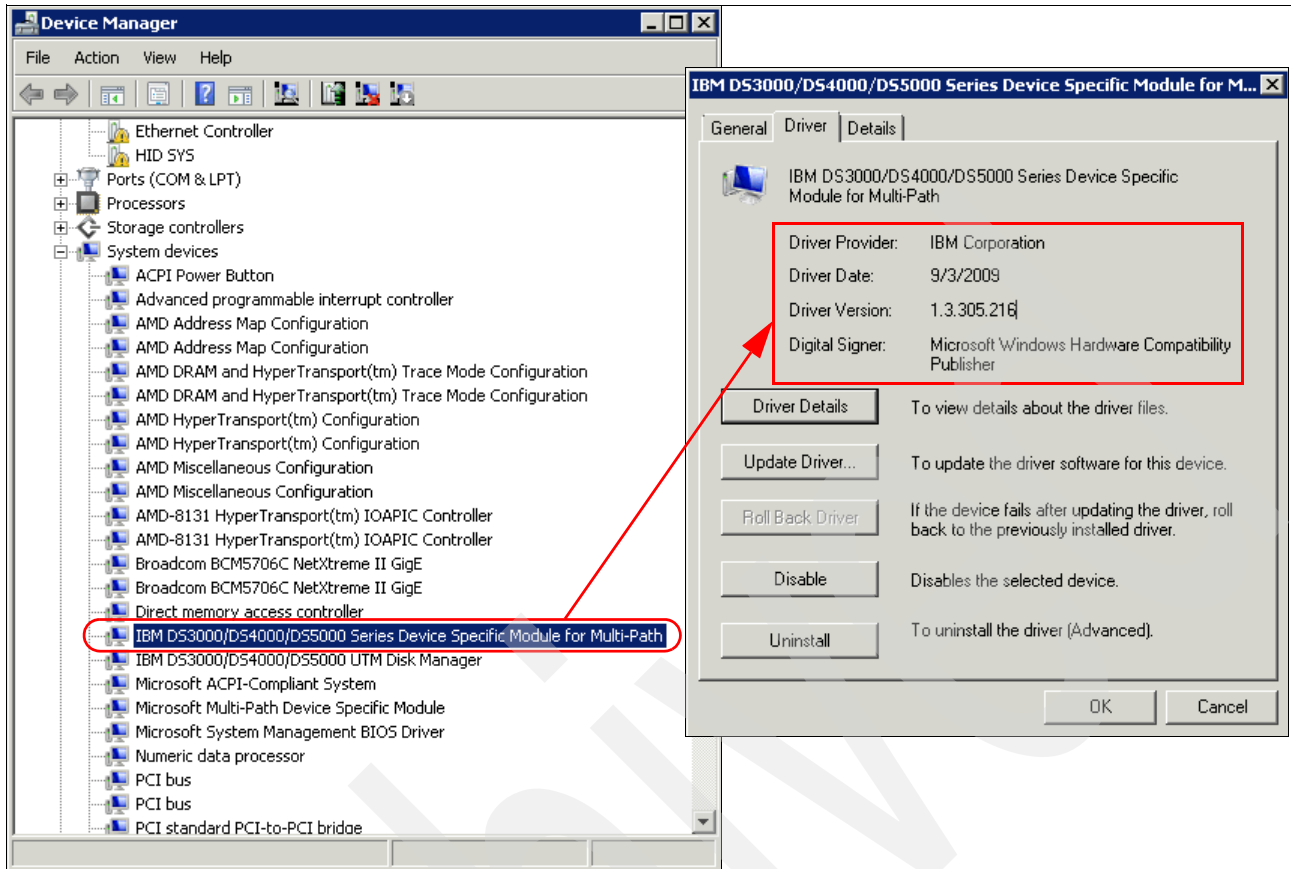

Figure 7-88 Windows Device Manager/DSM
- ▶ If running the Storage Manager 10 Failover driver, you will find, under System devices, an entry named IBM DS3000/DS4000 series Device Specific Module, as shown in Figure 7-88 on page 453. This entry is used to set the failover policies.